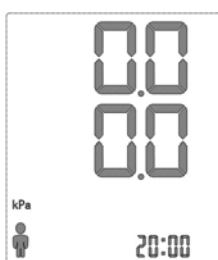
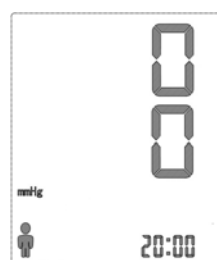

Fig 6
Fig 7
- a) Press the memory button will automatically change the unit conversion either from mmHg or kPa as shown on Fig 6 or Fig 7.